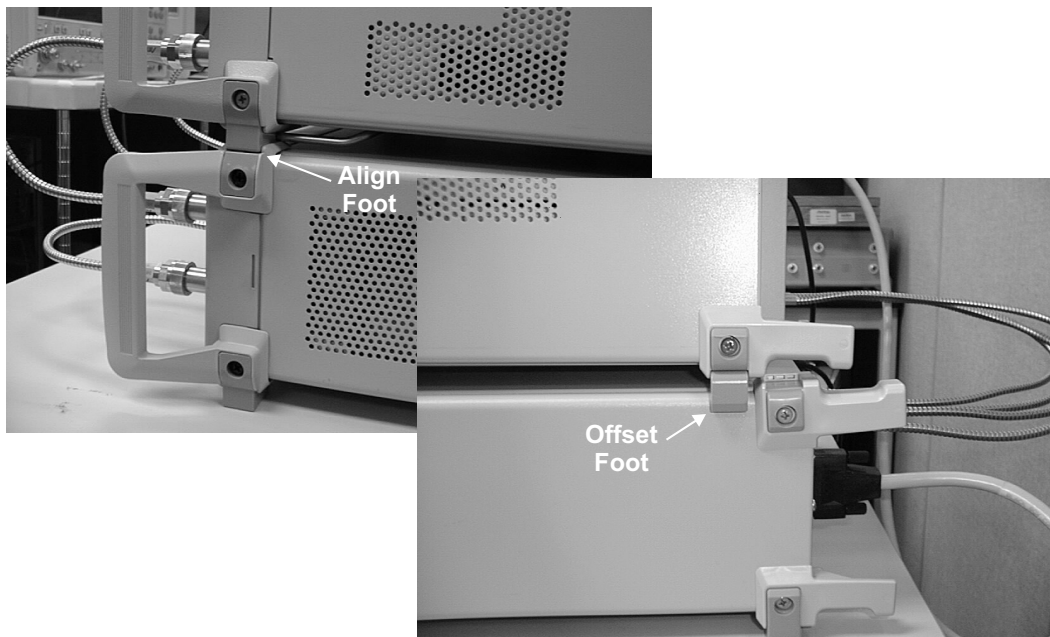

Figure 2-1. ME7840/4 Component Assembly
Step 1. Place the MS4623C on top of the MN4783A test set. Figure 2-1 shows how the green colored feet on the case of each unit stack on each other.